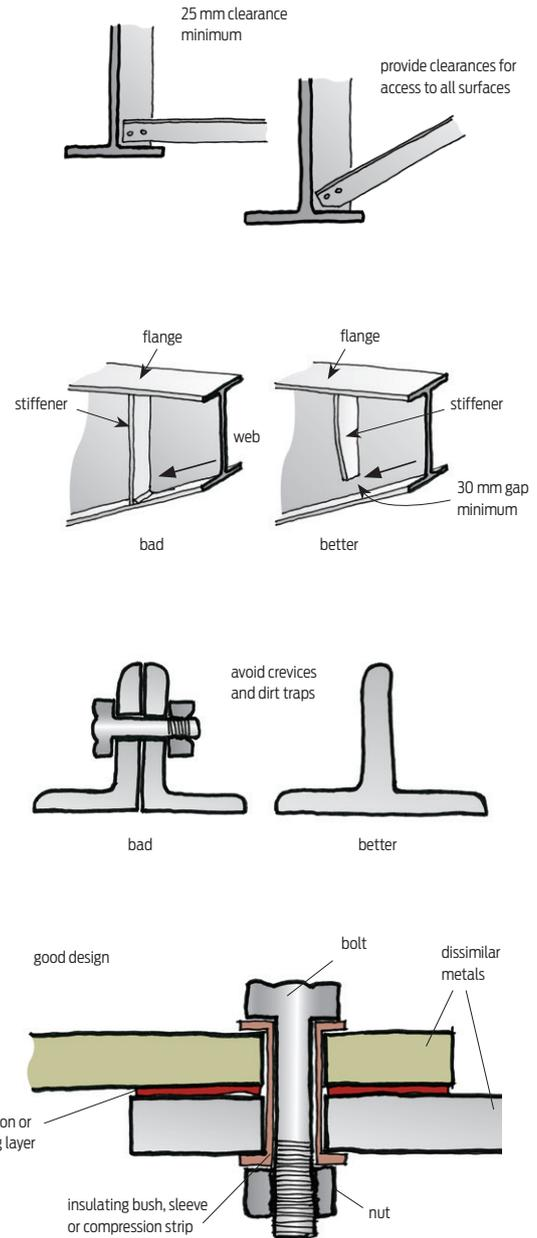

Figure 2. Avoiding galvanic corrosion.
- separate materials where there is a risk of galvanic corrosion (Figure 2)